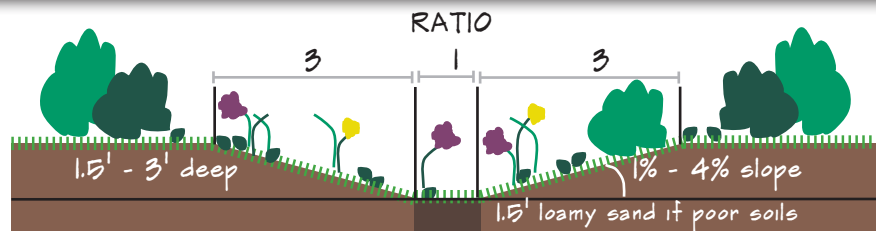

Figure 1. Profile of vegetated swale.
**STEP 1:** Dig out the shape of the swale to match your design. The deepest part of the swale in the center should be approximately 3' deep. The width of the swale will depend on how much space you have on your site. A swale can be any size or length, but most are shaped like a trapezoid with the sides being three times wider than the width of the base. The slope of the sides should be between 1% and 4% (figure 1).